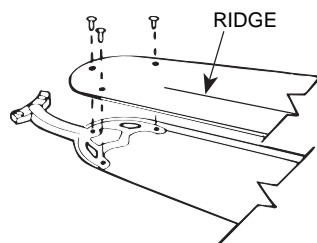
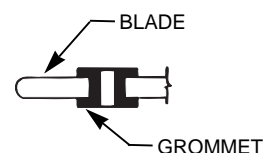

FIGURE 8
FIGURE 8A
A. Attach wood blades to blade brackets using three screws for each blade. See Figure 8. If your blades have large holes you must first insert the rubber grommets into the holes. See Figure 8A.